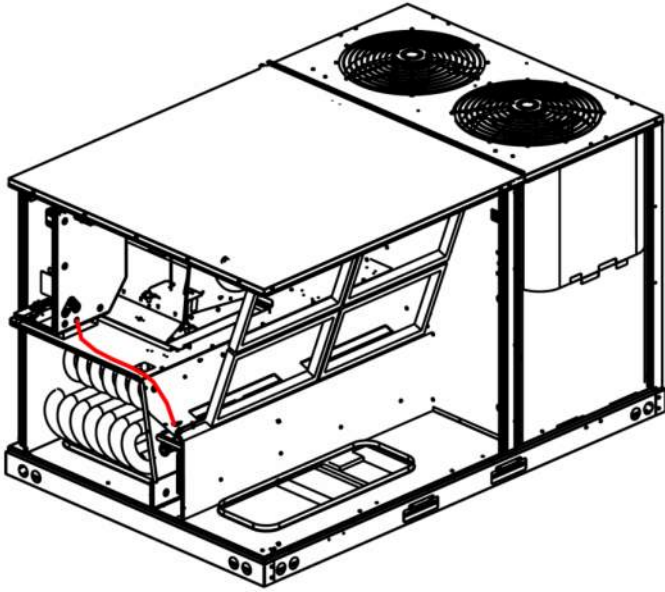

FIGURE 16A
9. Route the 2 way connector from the back of the control box through the bushing on the coil bottom support as shown in Figure 16. See Figures 16A, 16B, 16C. Attach the 2 way connectors outside of the drain pan.